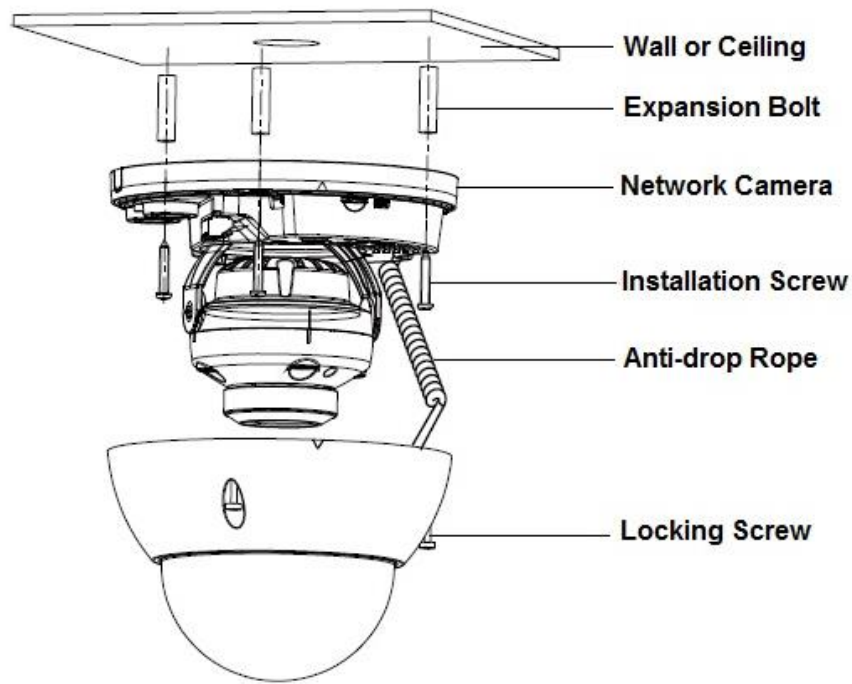
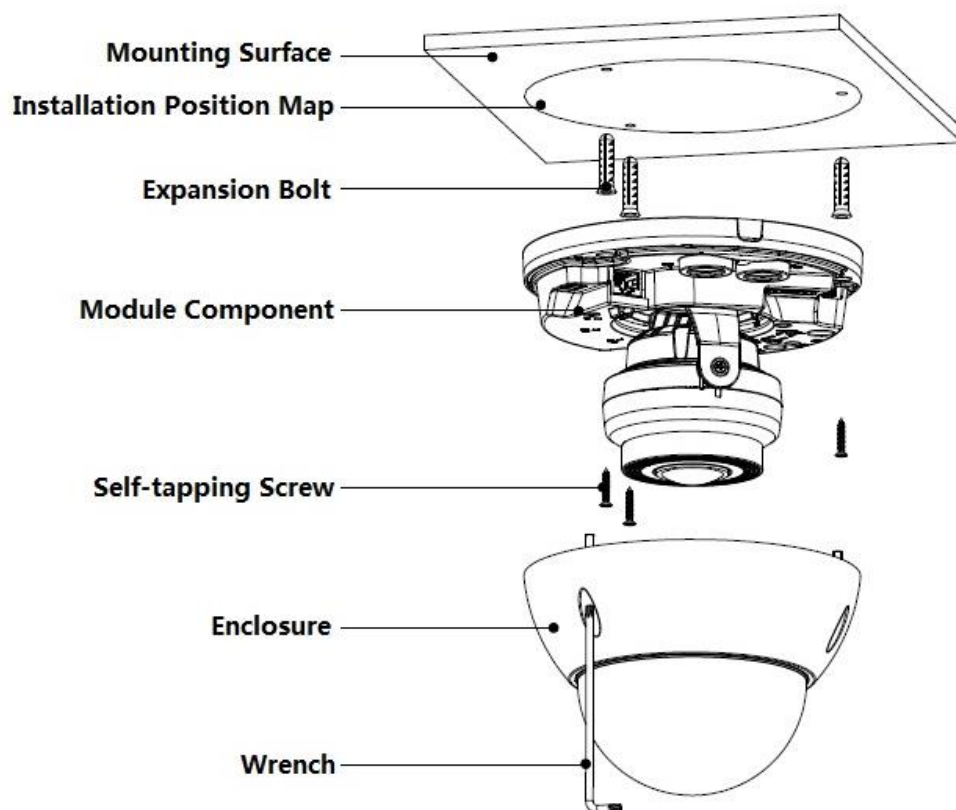

Figure 2-2
Figure 2-3
- The following installation figures are for reference only; please refer to Figure 2-2 or Figure 2-3 according to the actual product.